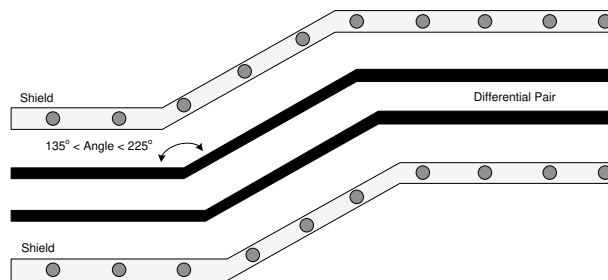

Figure 10-13. FPD-Link Routing Example
- Ensure that the bend angles associated with the differential signal pairs are between 135° and 225° (See Figure 10-13).